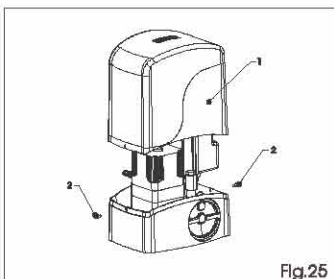

Fig.25
Return the board support to its original position. Fit the cover, Fig. 25 ref. 1, and tighten the two side screws provided, Fig. 25 ref. 2.